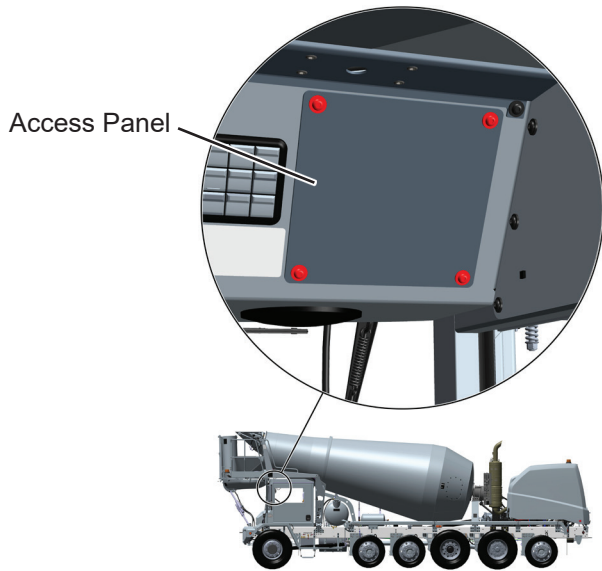

Figure 24
53. Reinstall overhead console access panel with four screws and washers removed in Step 9. See Figure 24. Final tighten screws to 75 in lbs.